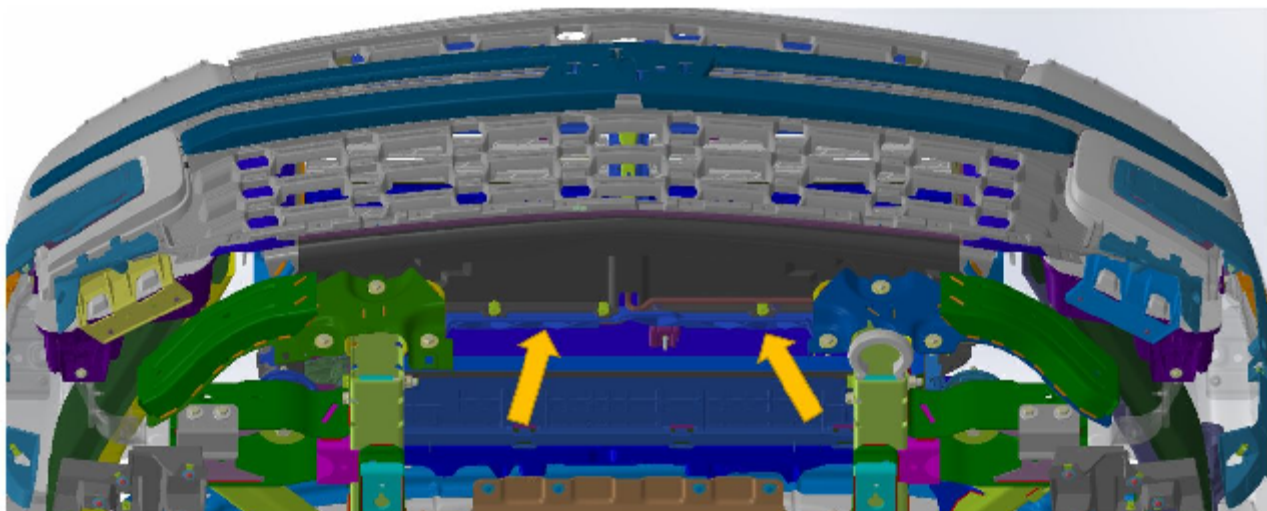
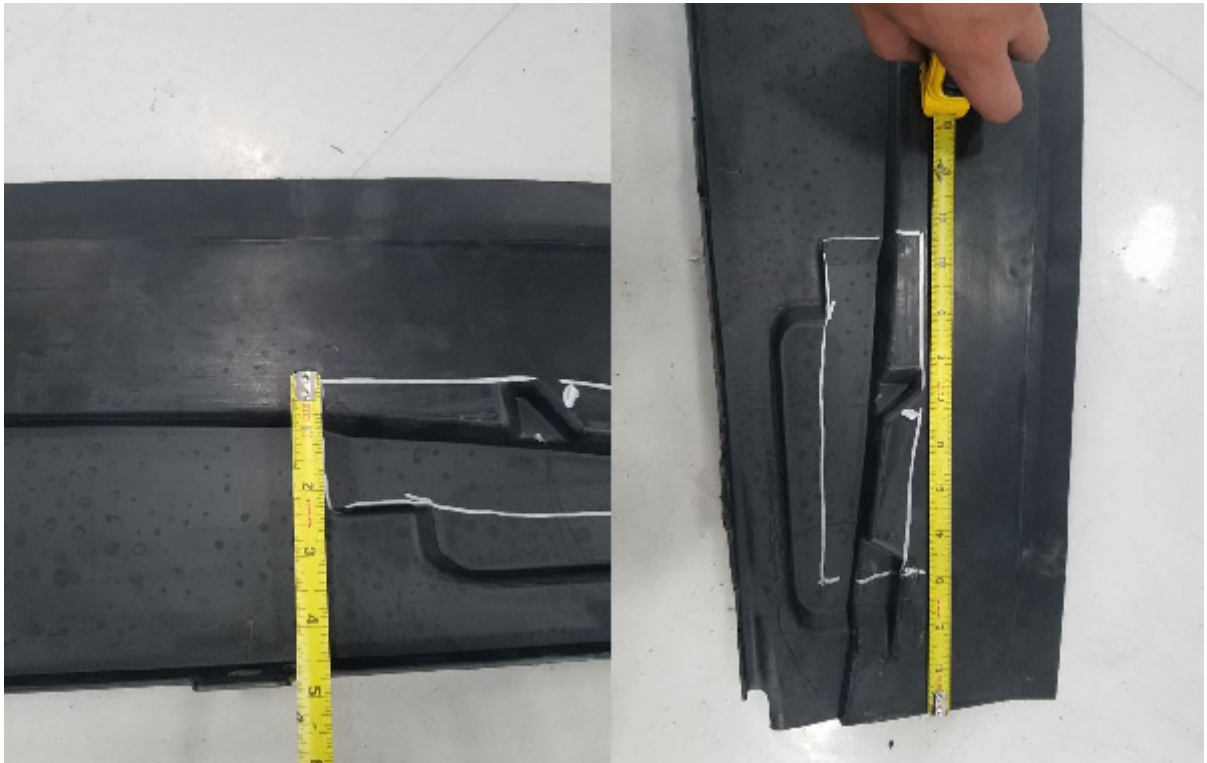

Fig. 4
Fig. 5
5. With front facia removed, remove lower air guide by first remove pop-out clips with a trim tool and pulling foward (Fig. 4), then cut out opening for upper bracket as shown in Fig. 5. on both side of OEM air guide.